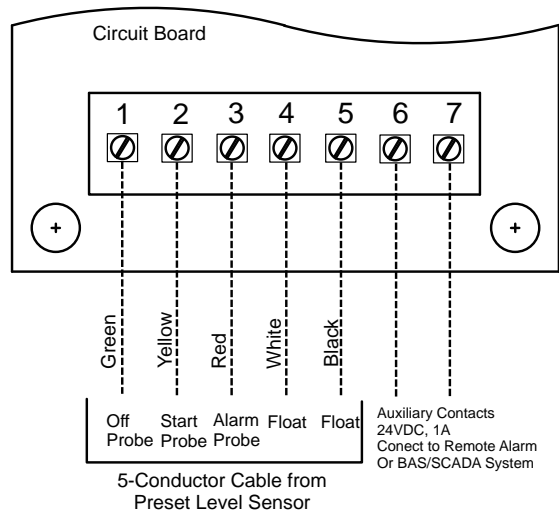

FIGURE 6
8. Connect the wires from the level sensor to the terminal strip inside the control panel (Figure 6).